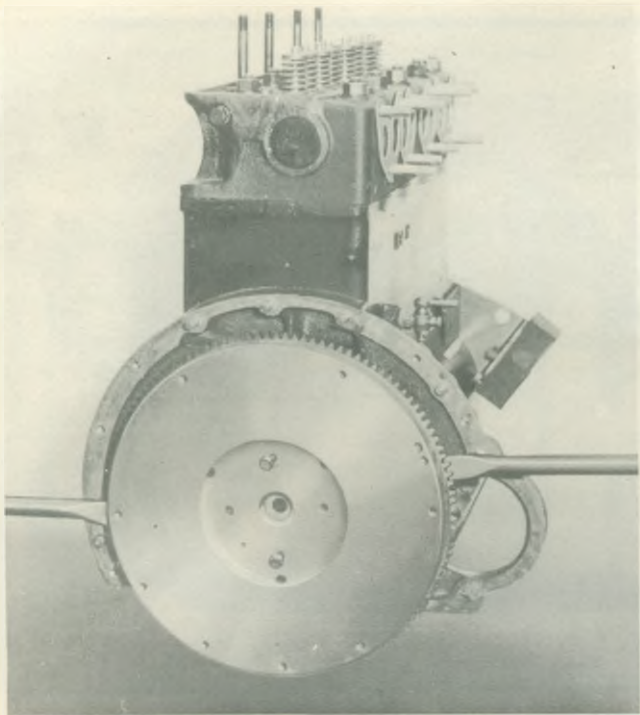

Fig. 41. Method for removal of flywheel
2. Remove the flywheel by complete withdrawal of two of the four $\frac{5}{8}$ " A/F headed setscrews and partial slackening of the other two and employment of two levers as shown in Fig. 41.